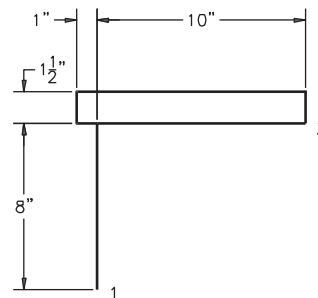
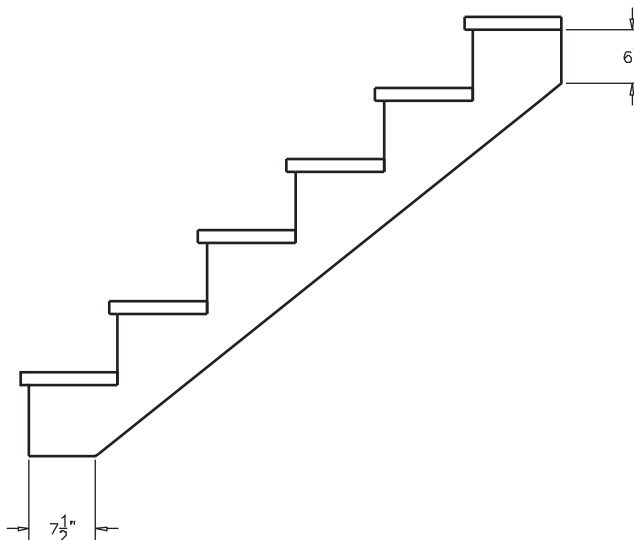

Fig. 25-1
Fig. 25-2
3. On layer **Objects**, draw the stair step shown in Fig. 25-1. Use polar tracking and enter the lengths at the keyboard. (The **Show/Hide Lineweight** button on the status bar should *not* be depressed.)
4. Copy the objects five times to produce the stairs as shown in Fig. 25-2. Use points 1 and 2 in Fig. 25-1 as the base point and second point, respectively. Be sure to add the lines that make it complete.